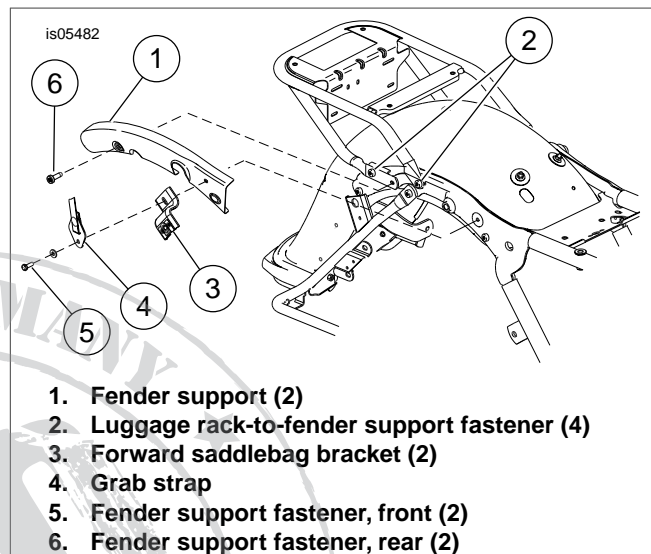

Figure 1. Remove Luggage Rack
5. See Figure 1. Remove grab strap fastener (5), washer, grab strap (4) and forward saddlebag bracket (3). Save all parts for installation.
6. Remove rear fender support fastener (6) and fender support (1). Discard fender support cover and fastener. Repeat for other side.
7. Remove luggage rack-to-fender support fasteners (2).
5. Loosely assemble the license plate holder (12) with screws (6), nuts (10) and bracket (16) to brackets (14 and 15).
7. Tighten bolts (4) to 25 ft-lbs (34 Nm).
8. Tighten license plate holder screws (6) to 15-19 ft-lbs (20-26 Nm).
9. Remove adhesive backing from red reflector (13) and carefully center and align it with the bottom edge of the license plate holder (12) and press firmly into place.
10. Install spacer (9), docking point (1), screw (17) and washer (7). Repeat for other side.
11. Tighten screws (17) to 125 **in-lbs** (14 Nm).
12. See Figure 1. Install the forward saddlebag bracket (3), grab strap (4), washer and grab strap fastener (5). Tighten to 12-15 ft-lbs (16-20 Nm).